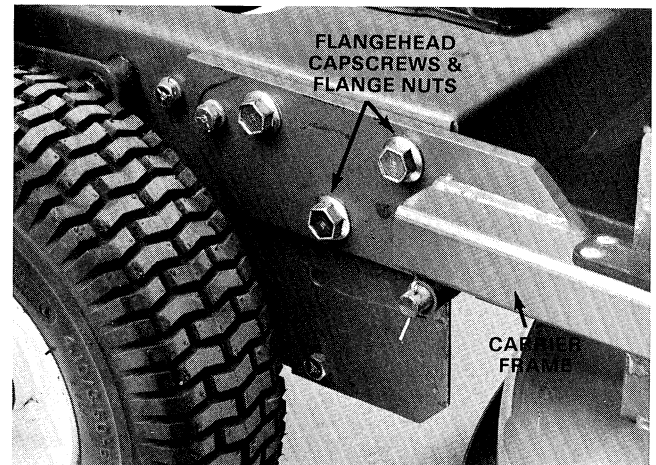

Figure 2
3. Remove the (2) front flange head capscrews and flange nuts securing right side of carrier frame to frame (Fig. 2).